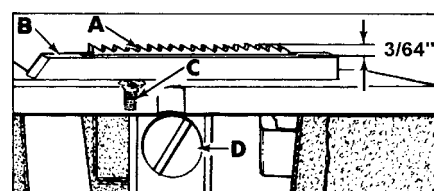

Fig 10
Feed dog (A, Fig. 10) should be centered in throat plate (B) with equal clearance on all sides and ends with feed travel set to desired stitch length. At highest point of travel, tips of feed dog teeth should extend the depth of $3/64$ " above throat plate and parallel to same. Screw (C) should be set to support feed dog after screw (D) has been loosened which secures feed dog in position.